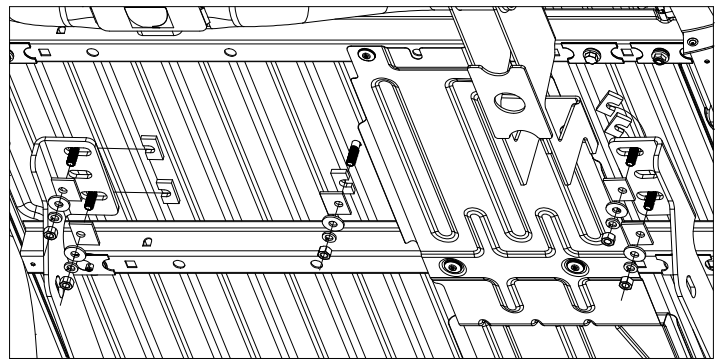

Figure C2: View under bed looking up toward cab. (Frame not shown)
2. **Install the rear mounting rail hardware.** Under the bed install an offset square washer, 1/2" flat washers, 1/2" lock washers and 1/2" finish nuts on each of the carriage bolts, see figure C2. Place the u-shaped spacers, see note below. Hand tighten each nut.